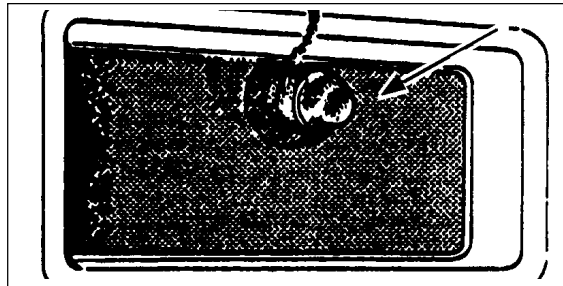

Figure 25
5. Check the solution tank screen and clean if necessary. See figure 25.